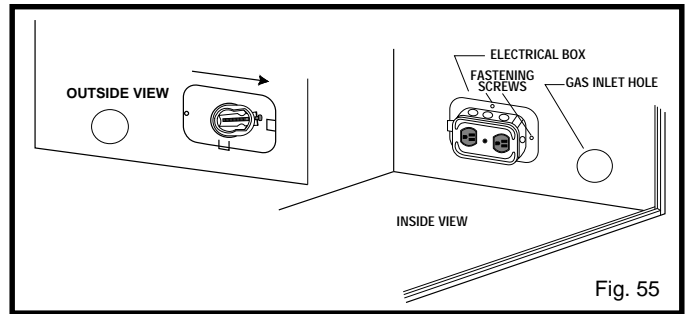

Fig. 55
5. Feed the electrical supply line in through the EB-1 opening in the side of the appliance and then through the back of the EB-1 assembly, Fig 55.